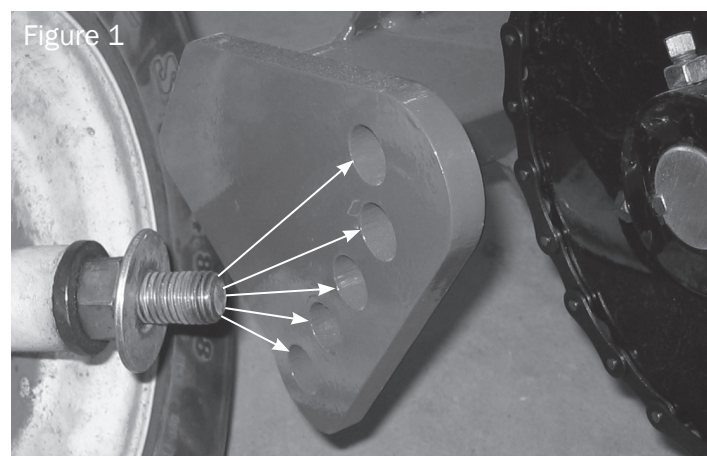

Figure 1
- a. Raise or lower pickup, Figure 1.
- b. Remove the nut on the bolt which holds the gauge wheel on the pickup and place bolt in the desired location, Figure 1. Tighten all nuts securely, ensuring that the wheel turns freely.